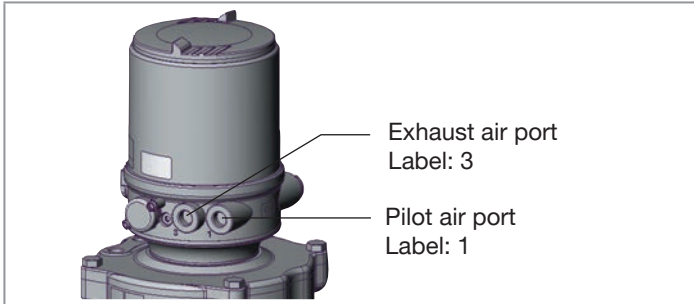

Fig. 16: Pneumatic connection Type 8686
- Connect the control medium to the pilot air port (1) (6 – 7 bar; instrument air, free of oil, water and dust).
- Mount the exhaust air line or a silencer on the exhaust air port (3) (see “Fig. 16: Pneumatic connection Type 8686”).